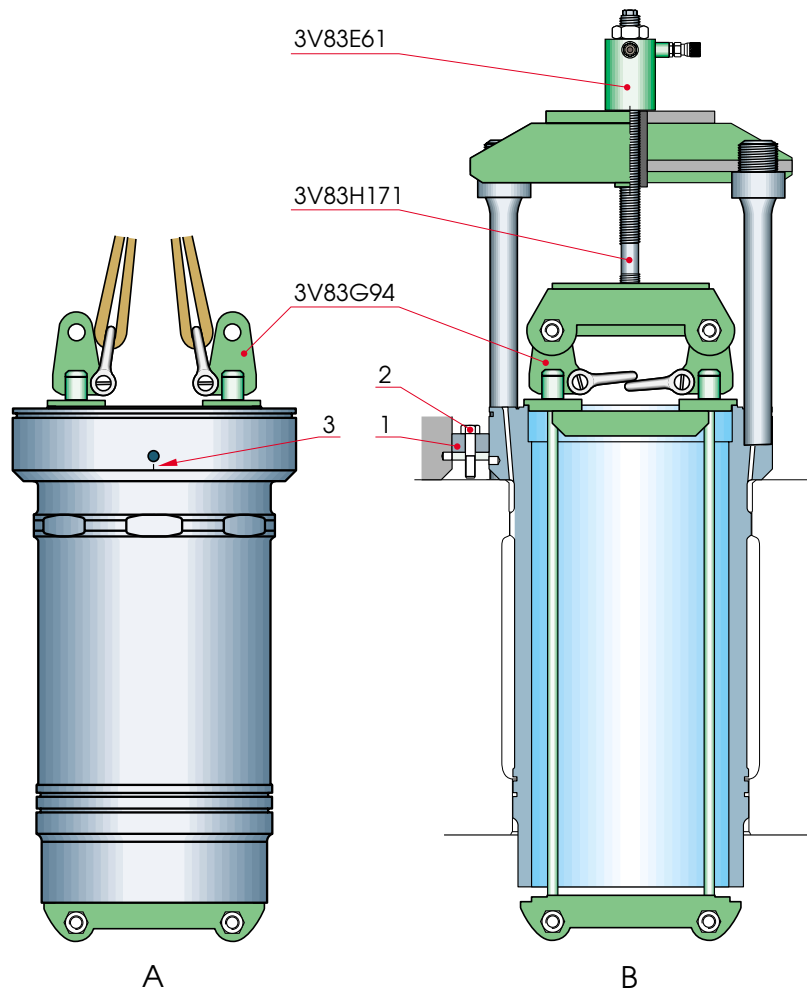

Fig 10-6
2 Loosen the screw (2) and remove the holder (1), see Fig 10-6.
3 Assemble the lifting tool 3V83G94, extractor 3V83H171 and the hydraulic tool 3V83E61 according to Fig 10-6.
8 Use the part of the removing device intended for this purpose to lift the cylinder liner, see Fig 10-6.
3 Lubricate the lower O-rings and the sealing faces with grease and assemble the lifting device, see Fig 10-6.
4 Lower the liner carefully into the bore of the engine block. When the lowest O-ring touches the engine block, align the liner so that the mark (3, in Fig 10-6) on the liner is directed towards the driving end of the engine on the A-bank and on the B-bank towards the free end of the engine. Lower further and press liner into position by hand.